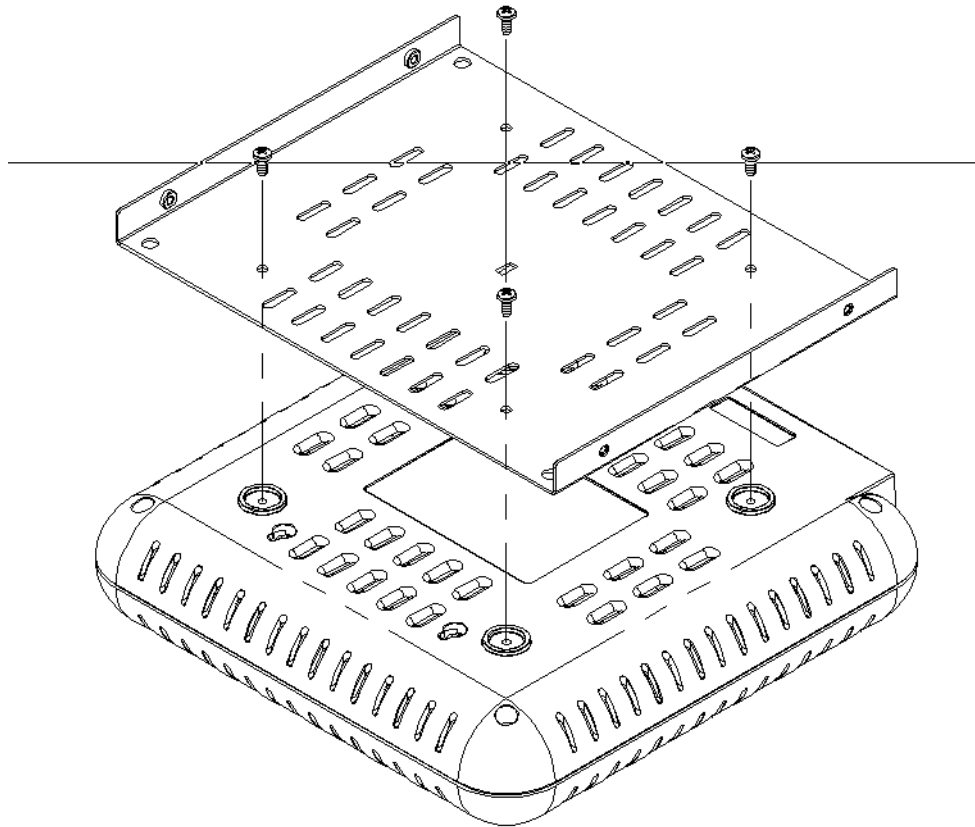

Figure 7: Installing Rear Mounting Plate
2. Fasten the Rear Mounting Plate to the bottom of the BSAP-1700 unit using the 4 #6x5/16" screws provided. Over-tightening of screws will cause stripping of threads formed in plastic (see Figure 7).